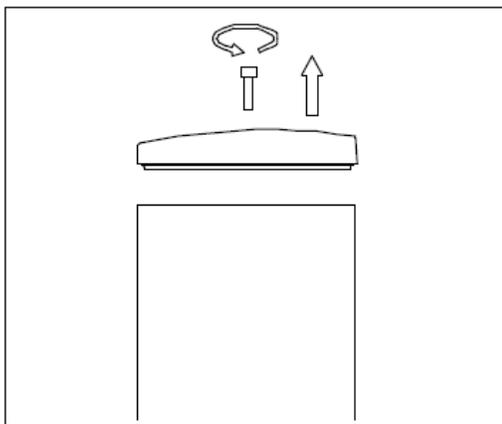

Figure 1
4. Use a $3/16''$ Hex Wrench to remove the Top Cover. (See Figure 1)